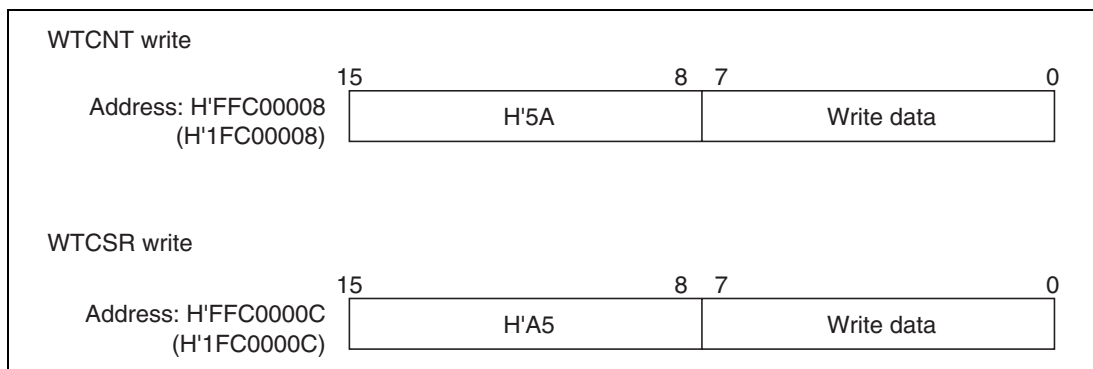

**Figure 10.3 Writing to WTCNT and WTCSR**
**Writing to WTCNT and WTCSR:** These registers must be written to with a word transfer instruction. They cannot be written to with a byte or longword transfer instruction. When writing to WTCNT, perform the transfer with the upper byte set to H'5A and the lower byte containing the write data. When writing to WTCSR, perform the transfer with the upper byte set to H'A5 and the lower byte containing the write data. This transfer procedure writes the lower byte data to WTCNT or WTCSR. The write formats are shown in figure 10.3.